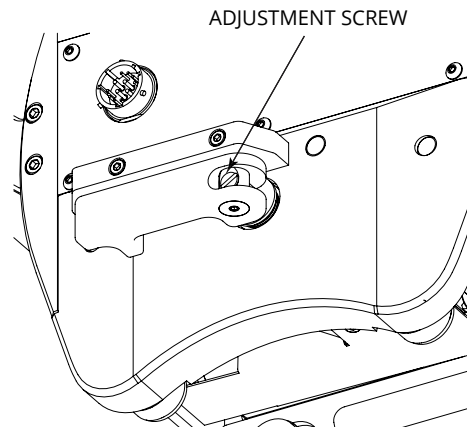

FIGURE 22 - Adjustment Screw
4. Once the set screws have been loosened, adjust the tension using a flat-head screwdriver to turn the adjustment screw – see **FIGURE 22 - Adjustment Screw**. Turn the adjustment screw clockwise to increase the tension. Turning it counterclockwise will decrease the tension.